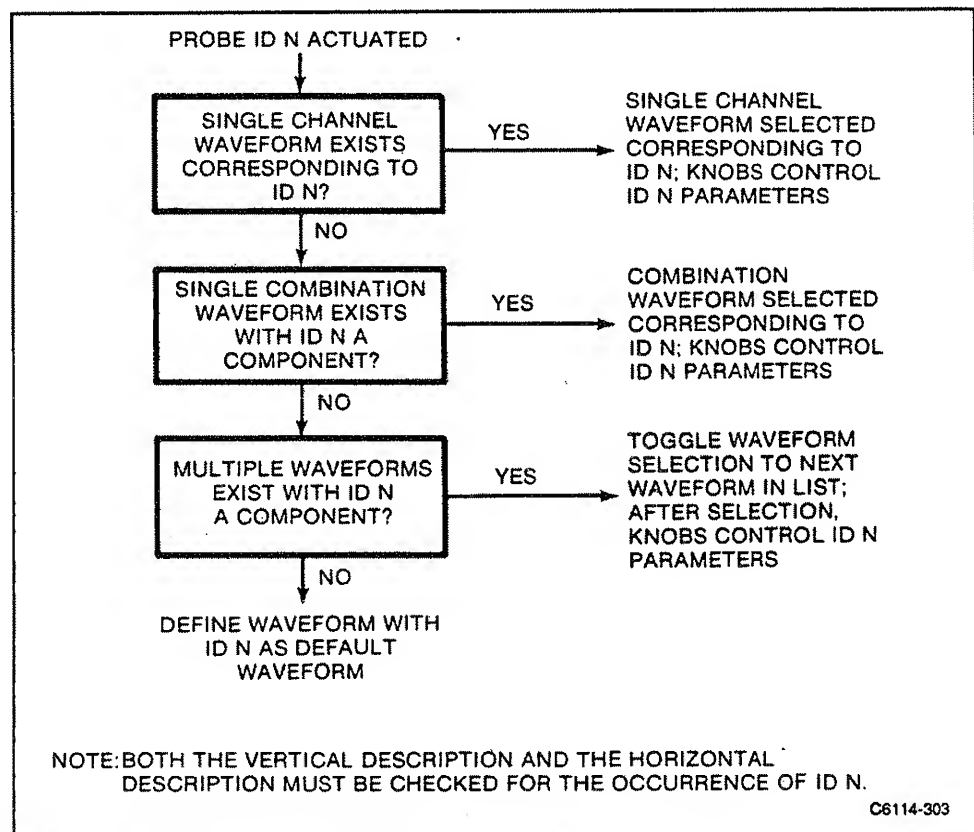

Figure 3-2. Sequence of decisions used to select a new waveform in response to probe ID button.
2. If the **Probe ID Function** (in the **Probes** pop-up menu of the Utility major menu) is set to **Waveform Select/New Wfm**, a waveform will be selected. Figure 3-2 shows the sequence of decisions used to select a new waveform.
3. If the Probe ID Function is set to **Wfm Select/New Wfm & AutoSet**, then the decisions shown in Figure 3-2 will be made, and the resulting selected waveform is autoset.